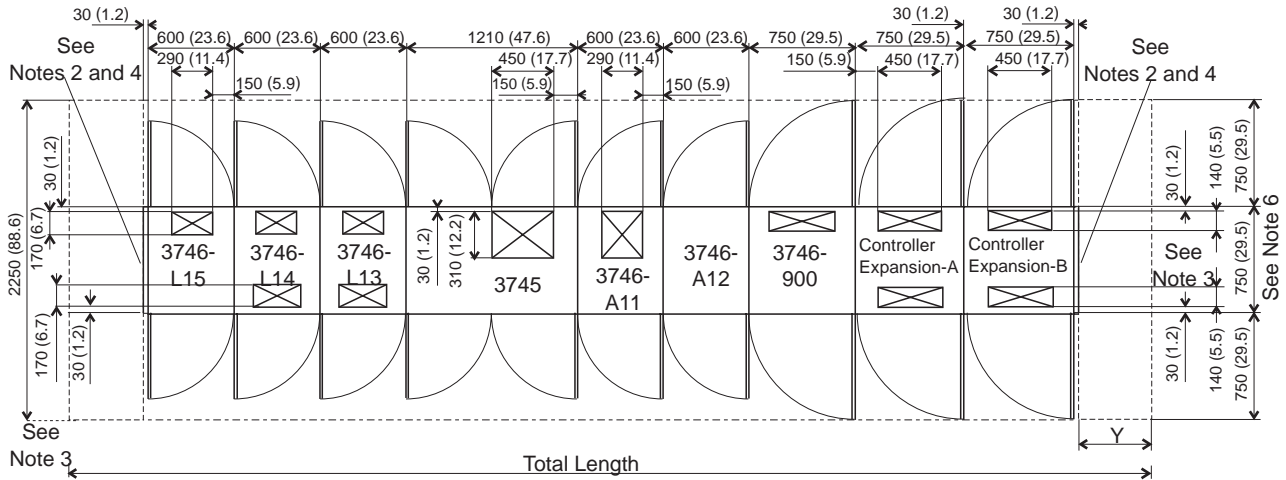
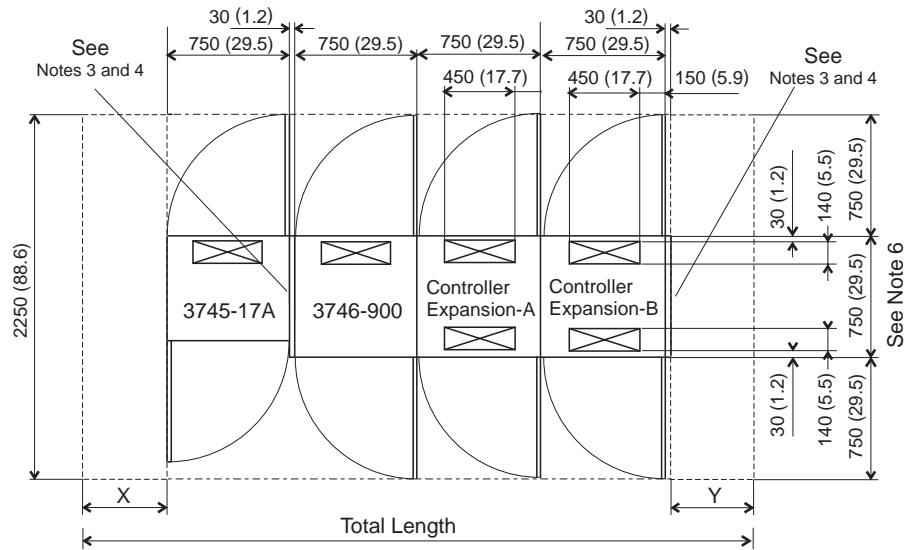

Figure 1-3. Plan View of a 3745-X1A/3746/3746-900/Controller Expansion Configuration
Figure 1-5. Plan View of the 3745 17A/3746-900/Controller Expansion
- Step 9. \_\_\_\_ Make sure that the installation area is in accordance with Figure 1-3 on page 1-8, or with Figure 1-5 on page 1-9. If not, inform the customer.